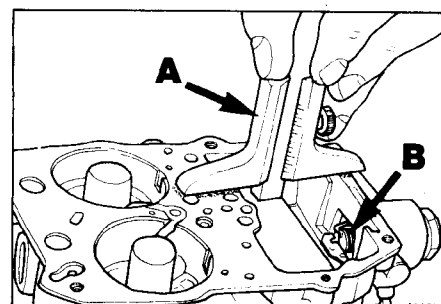

Fig. 8 Checking float level
- Using a depth gauge, measure distance from gasket face to top of float (A, Fig. 8).
- If necessary, adjust by bending tab (B) on float arm.